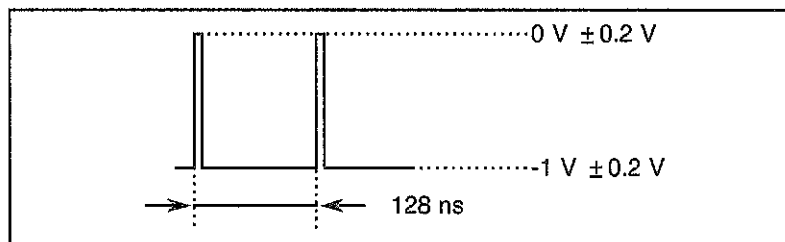

Figure 8-7 PATTERN TRIGGER Output Waveform
- (9) Normal when the waveform has the cycle as shown in Figure 8-7.